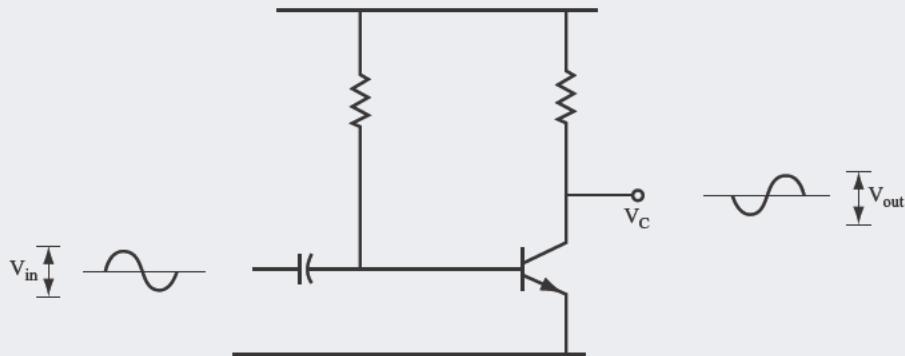

FIGURE 8.4
- B. A sine wave, but inverted as shown in Figure 8.4.
9 Figure 8.4 shows the input and output sine waves for an amplifier circuit.
10 For the circuit shown in Figure 8.4 you can calculate the voltage gain using the following formula: